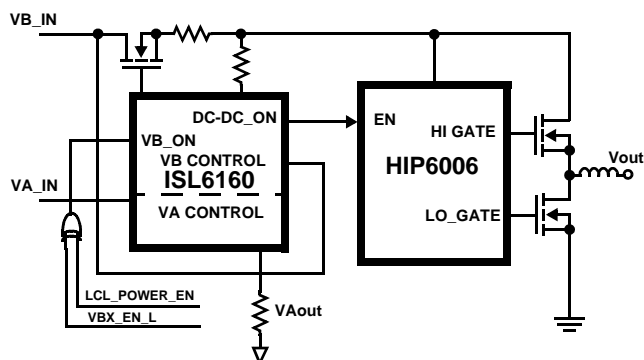

FIGURE 2. SIMPLIFIED ISL6160EVAL2 BLOCK DIAGRAM
On the IM the ISL6160 is necessarily paired with a DC-DC converter to convert 12V to a lower usable voltage for the application circuitry. Figure 2 shows a block diagram of a complete IM power sequencer and power supply using the ISL6160 and a HIP6006, single output PWM DC-DC converter.
Available from Intersil is the ISL6160EVAL2. The ISL6160EVAL2 is a complete InfiniBand Class I (non isolated) power topology evaluation platform consisting of the ISL6160 and the HIP6006 single output PWM controller. See Figure 2 for a simplified block diagram of the ISL6160EVAL2 platform. This evaluation platform allows the Infiniband Module (IM) power supply designer to evaluate the concept of this design and apply it to a specific IM power requirement. The evaluation platform is configured for 5V Vout and 3A Iout capability and exhibits a 92% total efficiency. See Figures 19 and 20 for ISL6160EVAL2 turn-on and turn-off waveforms.